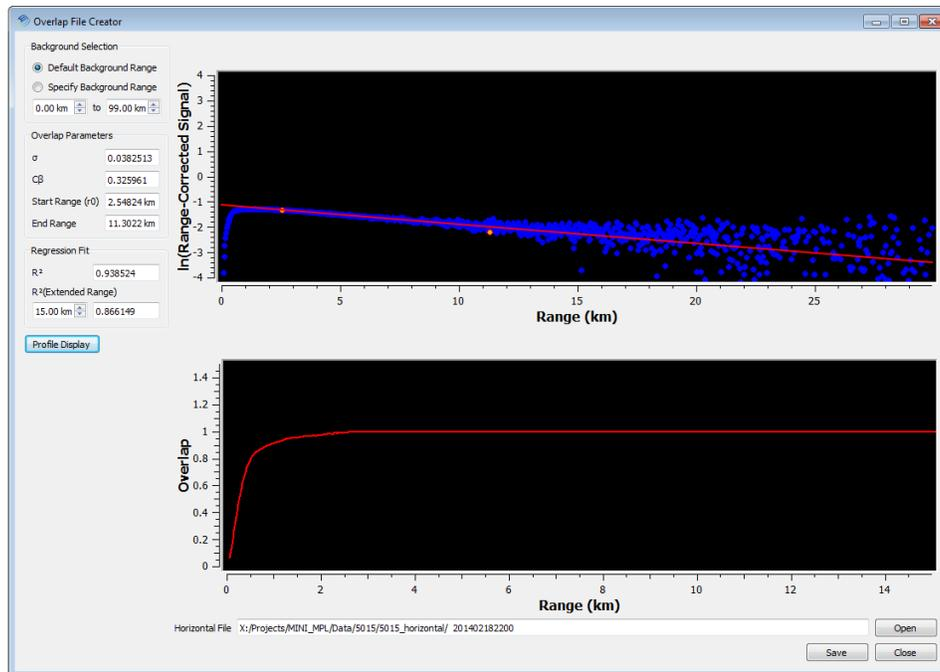

Figure 22: Overlap File Creator Window
- In the “Overlap File Creator” (Figure 22), open the .mpl file with the horizontal data. The natural log of the range-corrected signal is averaged across all profiles. The resulting averaged signal is displayed in the top graph (blue points).
- The overlap function (Figure 22) is dependent upon the linear region selected in the range-corrected signal. The region is selected by clicking and dragging the orange end